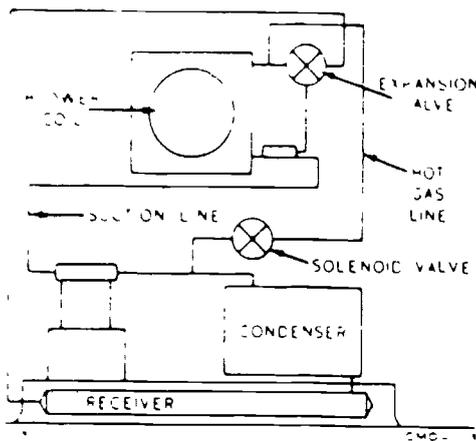

Figure 4. Simple Hot Gas Defrost System
**Hot Gas Defrost System.** A simple hot gas defrost system is illustrated in figure 4. The system has a bypass line containing a solenoid valve installed between the hot gas line and the evaporator. A timer turns the compressor off and opens the hot gas solenoid valve. The hot gas in the condenser flows to the evaporator and melts the frost. This system works very well as long as there is enough hot gas in the condenser to complete the defrost. If the condensing unit operates in a low ambient temperature area there may not be enough hot gas to completely defrost each cycle. In this case the evaporator will freeze up and have to be manually defrosted.